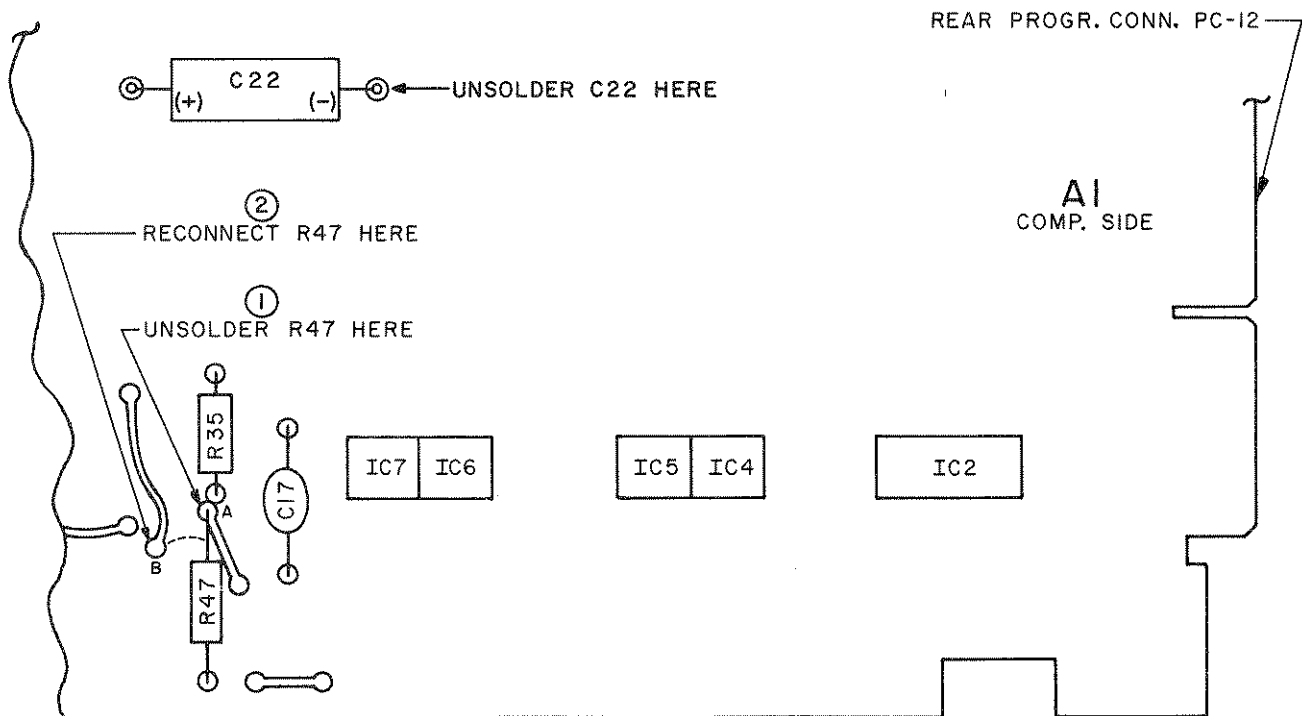

FIG. 3-27 LOCATION OF OVERVOLTAGE SENSING LEAD DISCONNECT.
- 3-113 The problem encountered in operating power supplies with overvoltage detection circuits in a redundant parallel configuration is that the overvoltage sensing leads are usually permanently wired to the error sensing leads. If now an overvoltage occurs on *either* power supply, *both* supplies will shut down, defeating the purpose of the redundant circuit. In the ATE power supplies, provisions are made on the control circuit P.C. card (A1), to disconnect the overvoltage sensing from the error sensing terminal, reconnect it to the output terminal and remove C26, thus successfully solving the problem described. (See FIG. 3-27).
- 1) Remove covers from both ATE power supplies, locate A-1 P.C. card and rewire overvoltage sensing as described in par. 3-113 and as illustrated in FIG. 3-27. Remove capacitor C26 as described in par. 3-113 and as illustrated in FIG. 3-27.